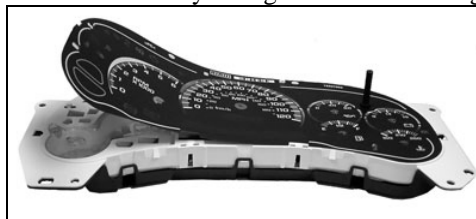

Figure 6
5. Remove the original graphic appliqué from the cluster by lifting it off the 3 holding points (see figure 6).